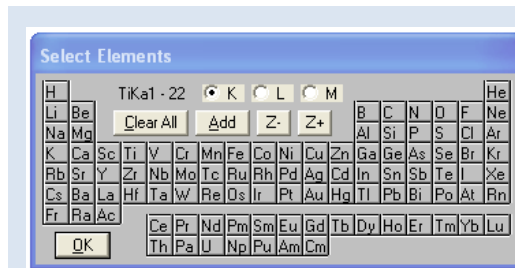

Figure 20 Pop up window, Element Table
- c. From popup Element Table (Figure 20), select K or L line.